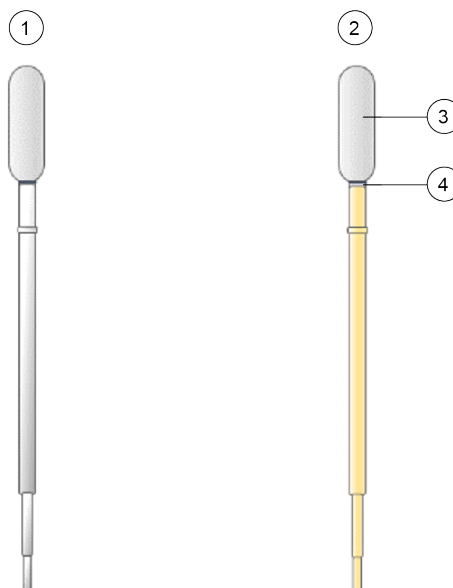

Figure 1. Transfer Pipette
- If using the *transfer pipette* included in the kit (Figure 1), fill the pipette to just below the bulb to transfer at least 1 mL plasma from the tube (Figure 1). Make sure no large air bubbles are created in the pipette tip while filling the pipette. Empty the contents of the pipette into the sample chamber of the cartridge (Figure 2).